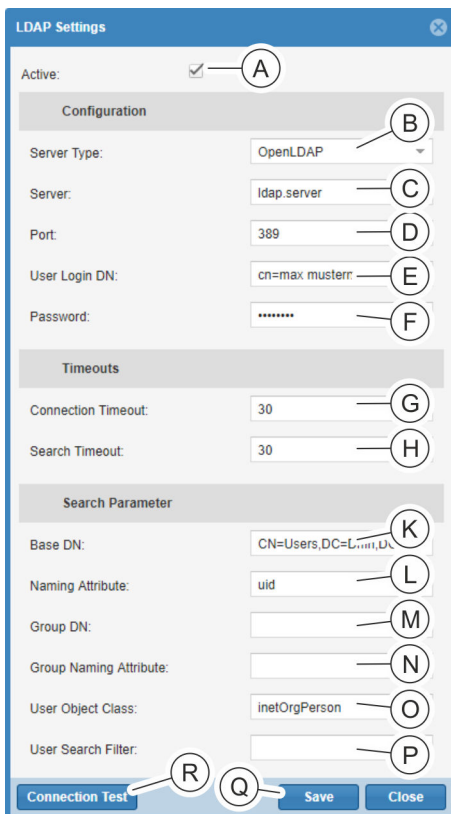

Fig. 144: “LDAP settings” window
The “Group DN” (Fig. 144/Ⓜ), “Group Naming Attribute” (Fig. 144/Ⓝ) and “User Search Filter” (Fig. 144/Ⓟ) input fields are not supported yet by the current version and cannot be used.
2. ➔ Click the “Active” checkbox (Fig. 144/Ⓐ) to activate the LDAP service.
3. ➔ From the “Server Type” option menu, select the type of directory service server used (Fig. 144/Ⓑ).
4. ➔ Enter the IPv4 or IPv6 address, or alternatively, the host name of the directory service server (Fig. 144/Ⓒ).
5. ➔ Enter the port for the LDAP service (port 389 is the default setting) (Fig. 144/Ⓓ).
6. ➔ For the connection to the directory service, enter the user (User Login DN) (Fig. 144/Ⓔ) and the corresponding password (Fig. 144/Ⓕ).
7. ➔ If necessary, enter a timeout value for establishing the connection to the directory service of between 1 and 60 seconds (30 seconds is the default value) (Fig. 144/Ⓖ).
8. ➔ If necessary, enter a timeout value for searching the directory service of between 1 and 500 seconds (30 seconds is the default value) (Fig. 144/Ⓗ).
9. ➔ Enter the starting point (Base DN) (Fig. 144/Ⓚ) for the search in the directory service.
- 10.▶ If necessary, adjust the "Naming Attribute" (Fig. 144/Ⓒ). It is set automatically to "sAMAccountName" if the server type is selected for "MS Active Directory" and to "uid" for "Open-LDAP".
- 11.▶ If necessary, adjust the "User Object Class" (Fig. 144/Ⓓ). It is set automatically to "user" if the server type is selected for "MS Active Directory" and to "inetOrgPerson" for "Open-LDAP".
- 12.▶ Press the "Connection Test" button (Fig. 144/Ⓔ) to check the connection to the directory service.
- 13.▶ Confirm the entry by clicking the "Save" (Fig. 144/Ⓖ) button.